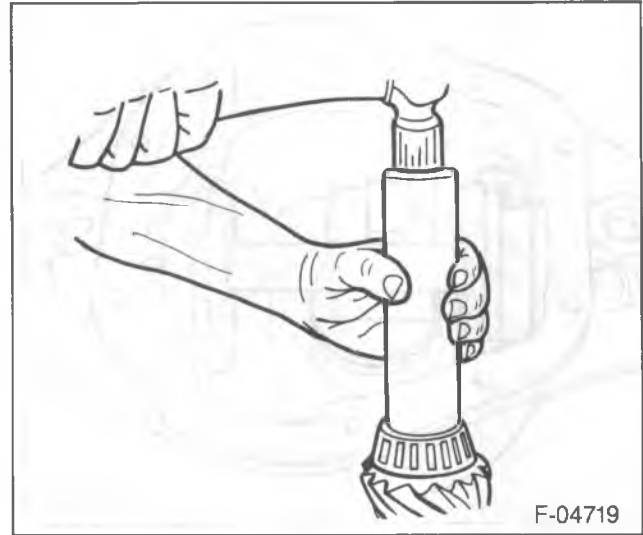

Figure 30—Installing the Inner Bearing
4. Inner bearing cone (and slinger if used) on pinion. Drive the bearing onto the pinion shaft using J 5590 (figure 30).
6. Outer pinion bearing (7) (and slinger if used).
7. Pinion flange (10).
8. Washer (11) and pinion nut (12).